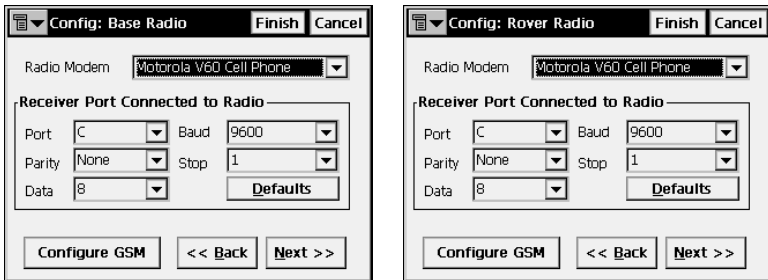

Figure 2-38. Base or Rover Radio Configuration
- On the radio configuration dialog box, select either appropriate GSM radio modem and set the following parameters (Figure 2-38):